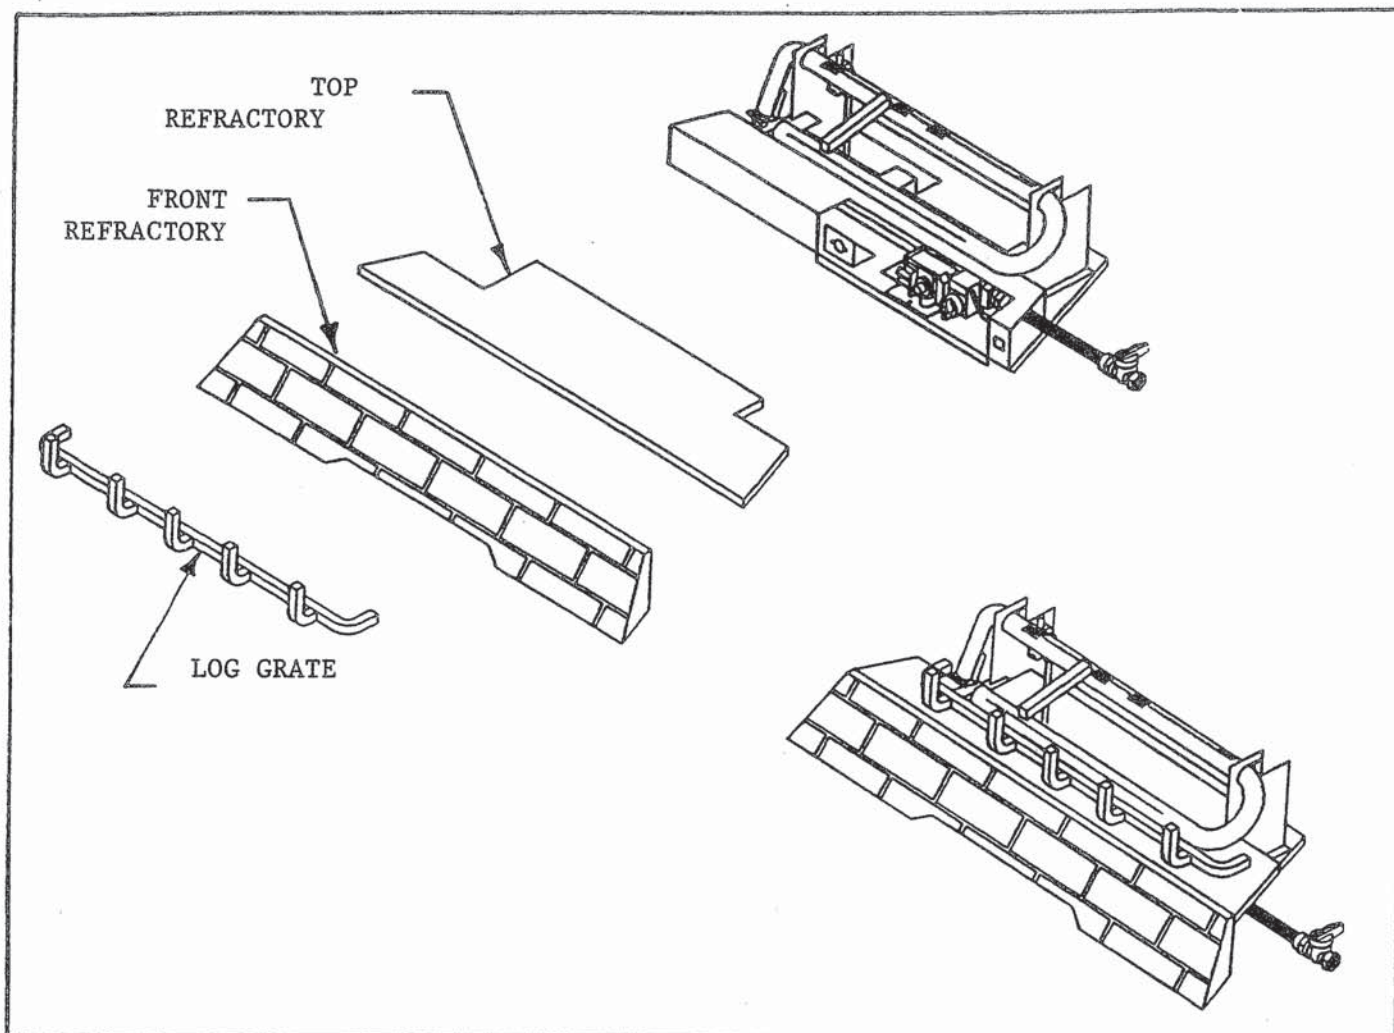

FIGURE 4
- G. Carefully install the top refractory piece by sliding it beneath the front portion of the burner. Position this piece such that it is flush with the front edge of the sheetmetal enclosure, and centered from left to right. See Figure 4.
- I. Carefully install the front refractory piece on the gas log set. See Figure 4.